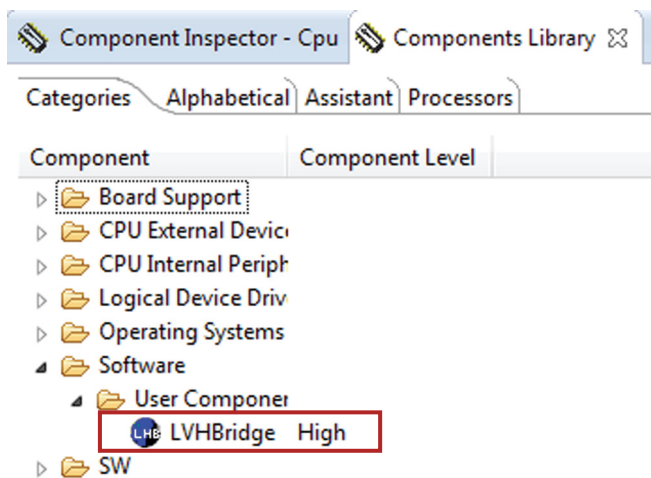

Figure 8. LVHBridge Component Location After CodeWarrior Import
3. If the import is successful, the LVHBridge component appears in Components Library -> SW -> User Component (see Figure 8). Note that the component **ChannelAllocator** is not visible, because it is not designed to be users accessible.